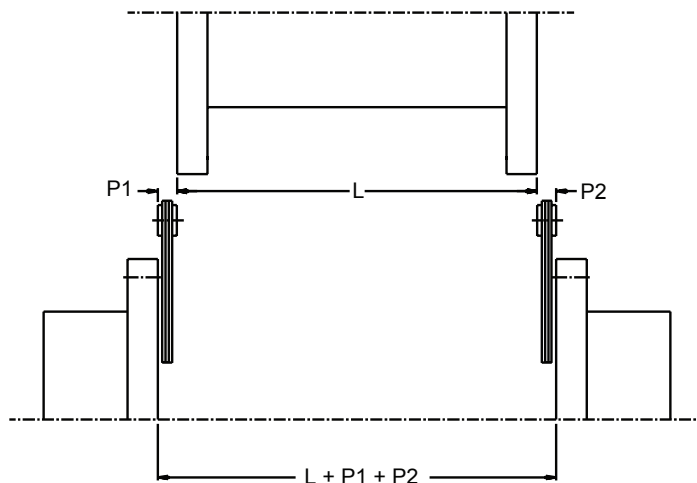

Figure 4. Axial Misalignment Measurements
- 4.3 Measure the length of the center section and the thicknesses of the two disc packs. See Figure 4. Measure the separation between the hub flanges and adjust the equipment until the axial hub separation equals the sum of the disc pack thicknesses and center section length.